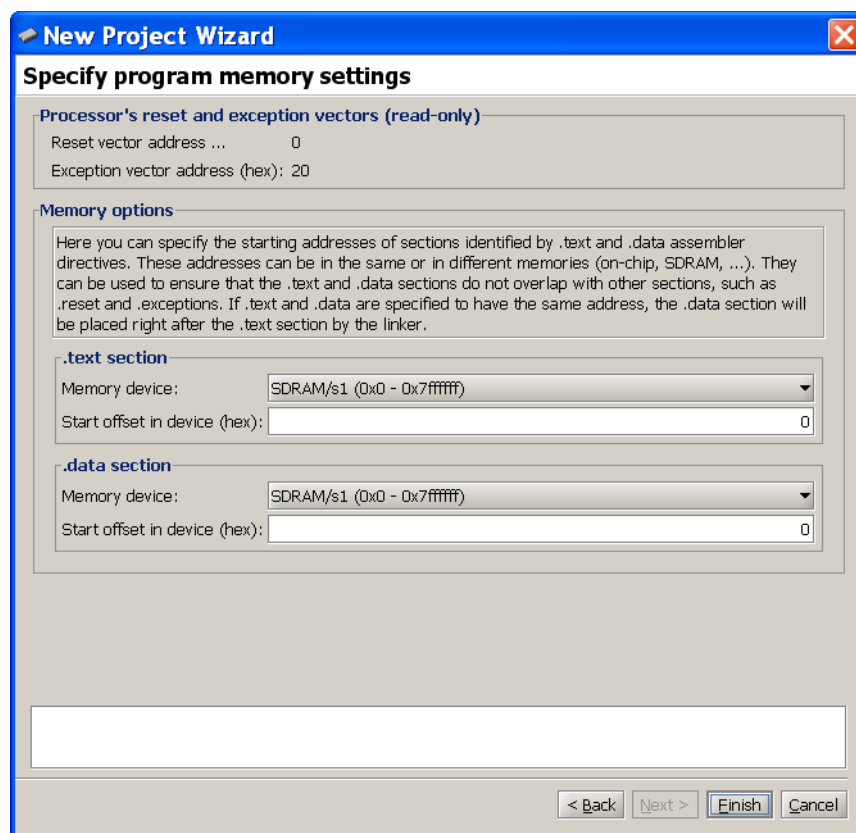

Figure 10. Specifying memory settings.
5. Click **Next** to reach the final screen for creating the new project, shown in Figure 10. This screen is used to specify memory settings that are needed for compiling and linking the program. Nios II programs are stored in a format that supports *sections*, which are used to divide a program into multiple parts, such as an executable code section, called *.text*, and a data section, called *.data*. The partitioning of the program into different sections is performed by the linker.
As illustrated in Figure 10, choose the SDRAM chip in the DE2 Basic Computer as the storage location for both the *.text* and *.data* sections, and use the value 0 for the offset into the memory for both sections. When the offsets for both sections are identical the linker automatically places the *.data* section immediately after the *.text* section.